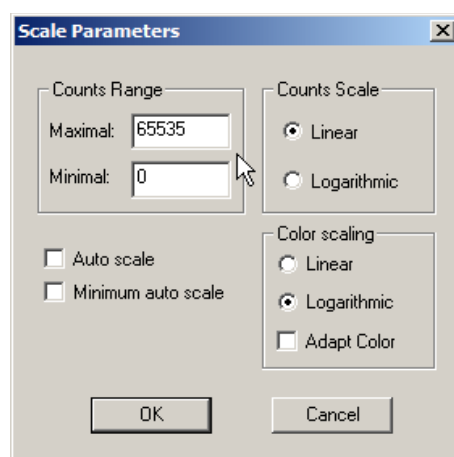
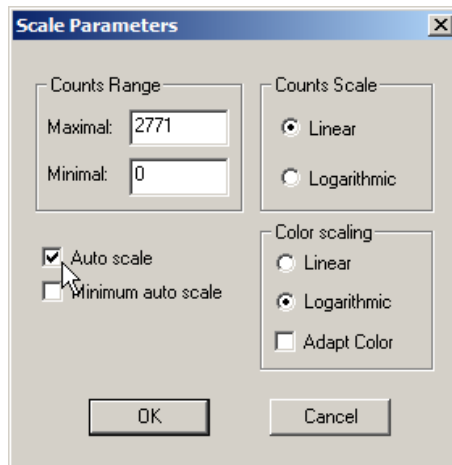
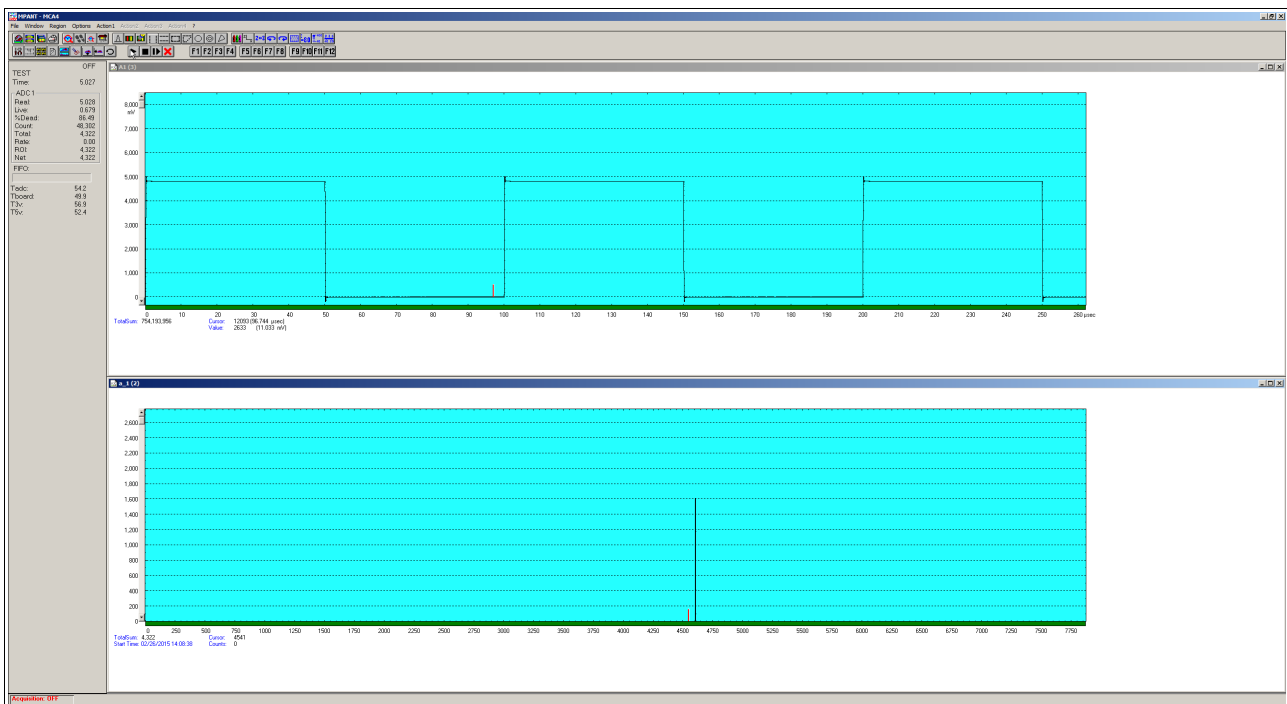

Fig. 2.10: Scale parameters for the scope display
Fig. 2.11: Scale parameters for the spectrum display
Fig. 2.12: 1st scope measurement
Click on the scope display window (*A1 (3)* in Fig. 2.12) to make it the active window in MPANT. Select *Options – Scale parameters...* or click  and set the *Counts Range* to 0 ... 65535 and deselct *Auto scale* and *Minimum auto scale* (ref. Fig. 2.10). Press *OK*. This makes sure we will see the full 16 bit ADC conversion range.
After activation of the spectrum display (*a_1 (2)* in Fig. 2.12) again select *Options – Scale parameters...* and enable *Autoscale* (ref. Fig. 2.11). Press *OK*.
Looking at Fig. 2.12 one can easily see the square wave had an amplitude of some 4.8V with little over- and undershoot at the edges. The amplitude was stable enough which can be seen from the narrow peak (needle) in the lower pulse height analysis spectrum.